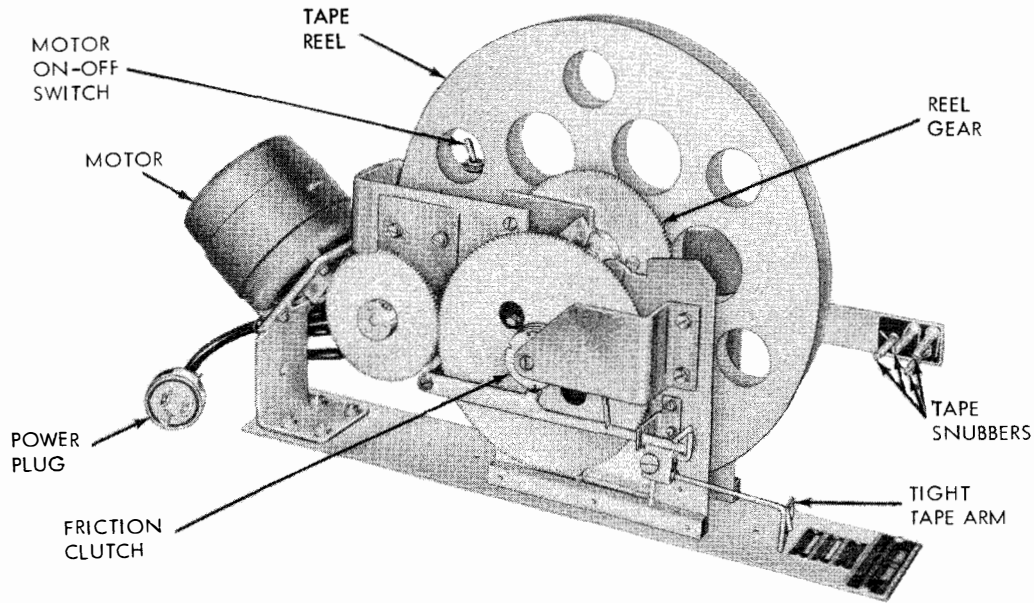

Figure 1-11. Motor Driven Tape Reeling Machine RL-173/FGC, Left Side View
(1) TT-164/FGC-38.—This unit is driven by a synchronous motor and includes gears and parts for 60, 75 and 100 (experimental) wpm operation.
(2) TT-165/FGC-38X.—This unit is driven by a governed motor and includes gears and parts for 60, 75, and 100 (experimental) wpm operation.
(3) TT-166/FGC-39.—This unit is also driven by a synchronous motor and includes gears and parts for 65 wpm operation only.
b. MOTOR DRIVEN TAPE REELING MACHINE RL-173/FGC.—This unit reels the tape for storage in the monitor cabinet as the tape is perforated, typed, and time stamped (see figure 1-11). It consists of a motor to drive the tape reel, a speed-reducing gear train, a tape reel to accommodate approximately 1000 feet of chadless, perforated tape, and a clutch assembly to regulate